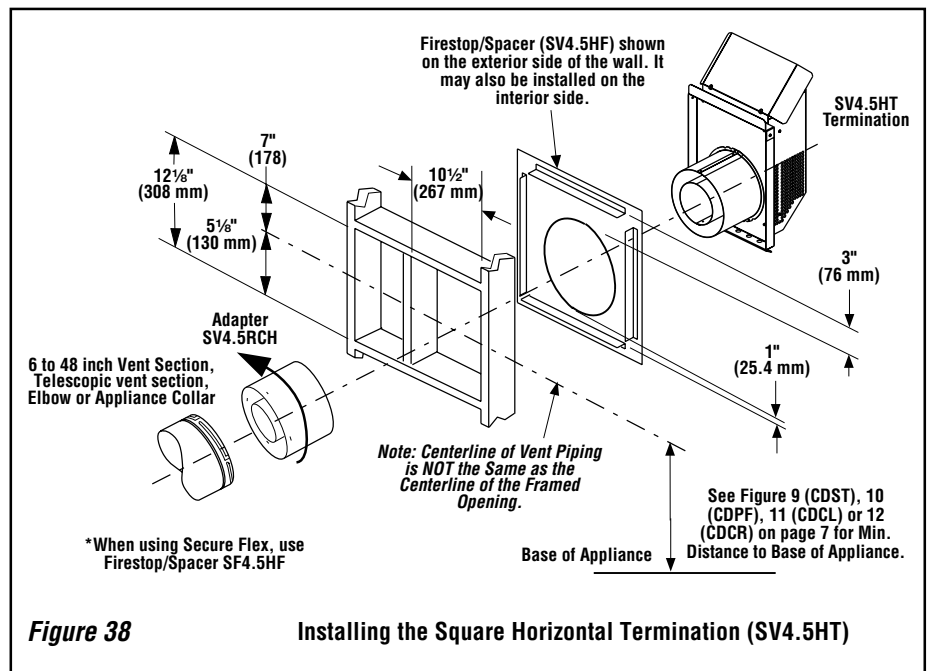
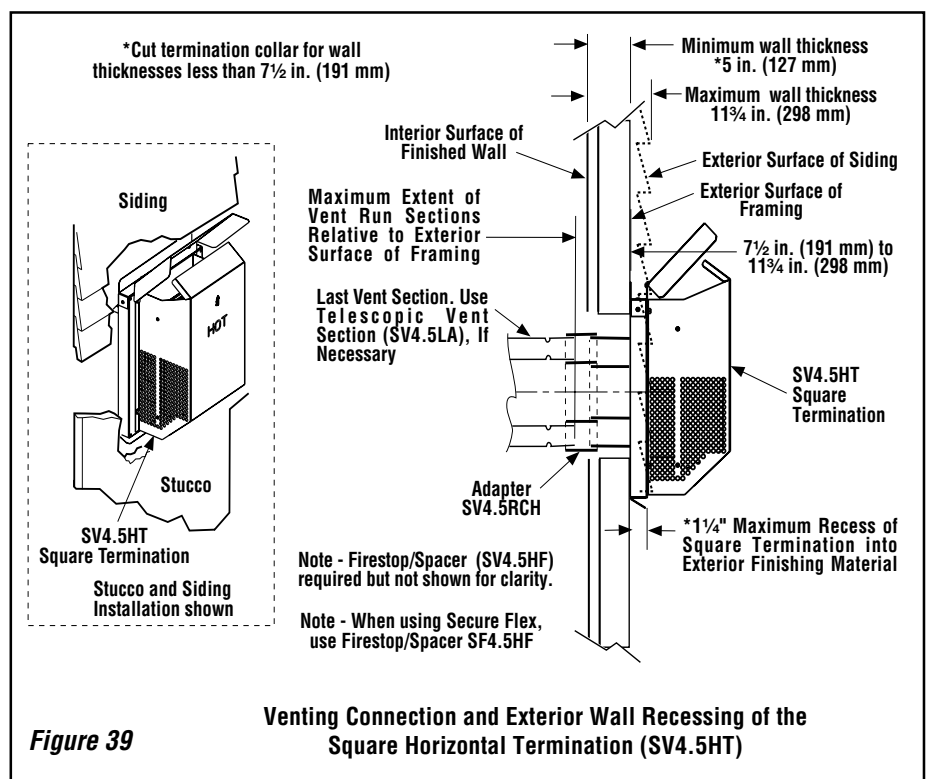

Figure 38
Figure 39
J. Assemble vent run to exterior wall - If not previously measured, locate the center of the vent at the exterior wall. Prepare an opening as described in **Step B**. Assemble the vent system to point where the terminus of the last section is within 7½ in. (191 mm) to 11¾ in. (298 mm) inboard of the exterior surface to which the SV4.5HT termination is to be attached, see **Figure 39**. If the terminus of the last section is not within this distance, use the **telescopic vent section SV4.5LA**, as the last vent section. For wall thicknesses greater than that shown in **Figure 38**, refer to **Table 3 on page 18**. This table lists the additional venting components needed (in addition to the termination and adapter) for a particular range of wall thicknesses.
K. Attach termination adapter - Attach the adapter (adapter - SV4.5RCH - provided with the termination) to the vent section or telescoping vent section, elbow or appliance collar as shown in **Figure 38** in the same manner as any SV4.5 vent component (refer to **Step E**).
L. Install Firestop/Spacer at exterior wall - When using the **square** termination, install SV4.5HF (Secure Vent), SF4.5HF (Secure Flex) Firestop/Spacer over the opening at the exterior side of the framing, long side up, with the 3 inch spacer clearance at the top as shown in **Figure 38**, and nail into place.
Install the square termination (SV4.5HT)- For the last step, from outside the exterior wall, slide the collars of the termination onto the adapter until the termination seats against the exterior wall surface to which it will be attached. Orient the housing of the termination with the arrow pointed upwards. Secure the termination to the exterior wall. **The horizontal termination must not be recessed into the exterior wall or siding** by more than the 1 ¼" (32 mm) as shown in **Figure 39**.
***Note:** See Figure 39 for wall thickness range reductions when using SV4.5HT termination.